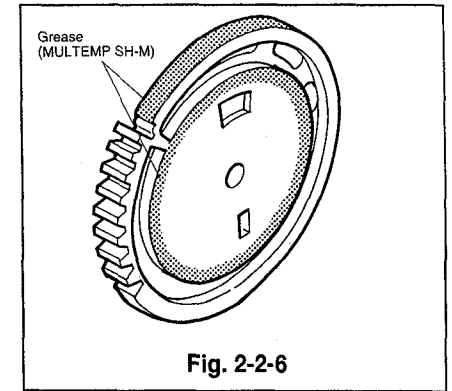

Fig. 2-2-6
- ③ Apply the grease (MULTEMP SH-M)[859D055O60] to the area shown in Fig. 2-2-6 of the new sens gear.